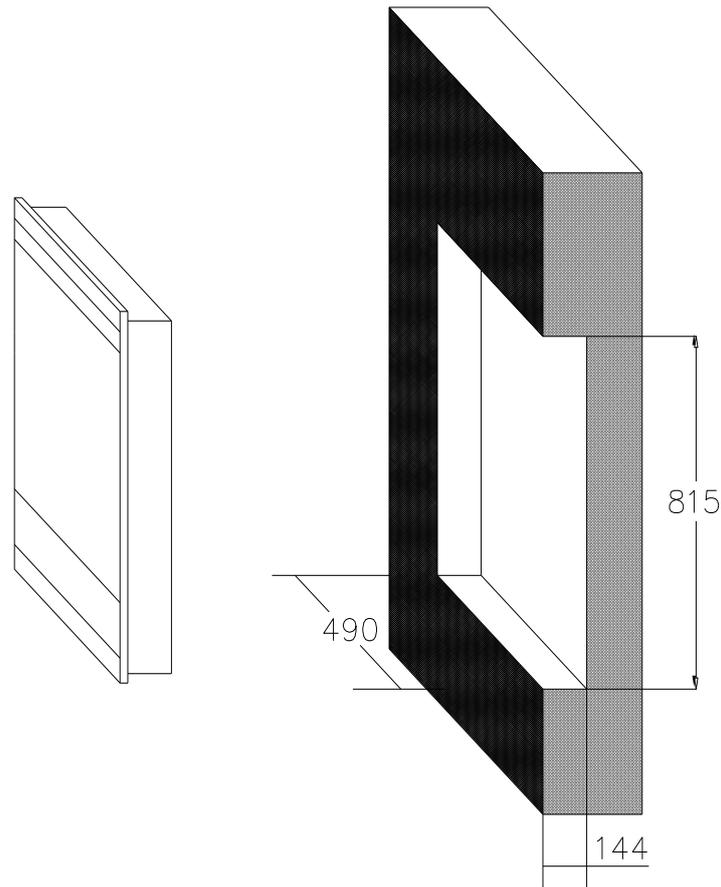

Fig. 2.2
- Hole distance for flush-mounting: 815mm x 490mm x 144mm. Dimensions for flush-mounting are shown in following Fig. 2.2.